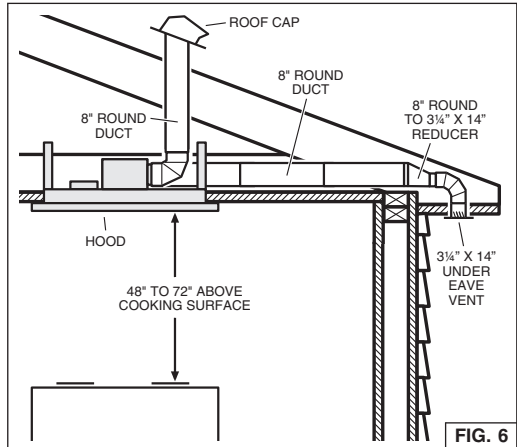

FIG. 6
1. Decide where the ductwork will run between the hood and the outside. Fig. 6.
The hood should always be centered over the cooktop. Make sure there is adequate space in the ceiling structure to install the hood and ductwork. The hood should be mounted 48" to 72" above the cook top for best removal of cooking impurities. Fig 6.